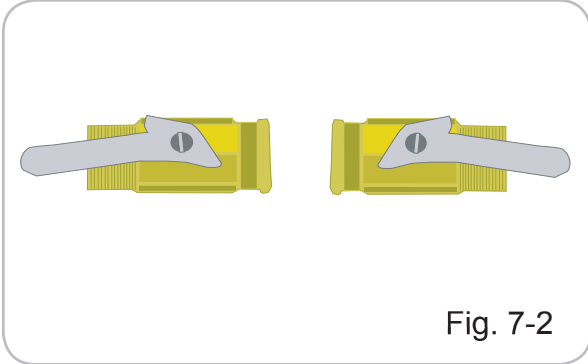
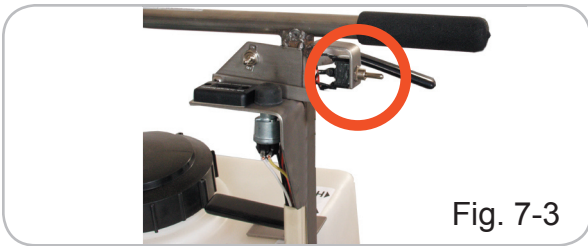

Fig. 7-2
Fig. 7-3
- 1 Fill tank with water. To spray up to 11 feet wide while in High (H) gear, point the handles of the spray control valves (See Fig.7-2) away from each other. Pull the spray switch toggle switch (See Fig.7-3) toward the hand grip to momentarily spray or push the toggle forward to spray continuously. Both grey nozzles with white caps should be spraying.
- 2 To spray up to 11 ft wide while in Low (L) gear, point the handle of the spray control valves (See Fig.7-2) towards each other.